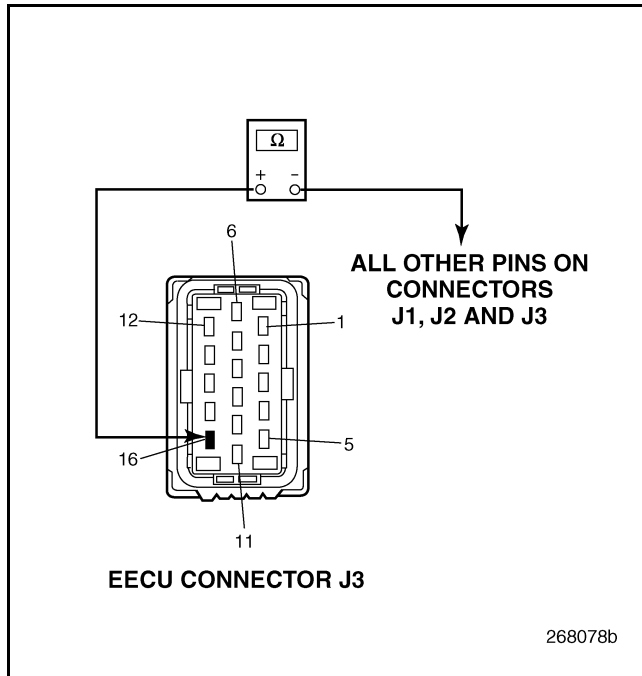

Figure 790
4. Check for continuity between the EECU harness connector J3 pin 16 all other pins on EECU connectors J1, J2 and J3 (see Figure 790).